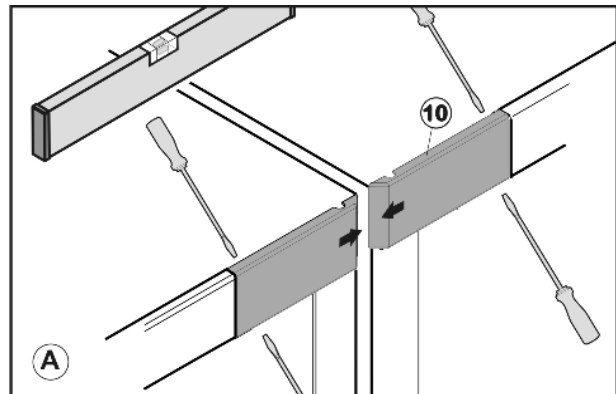

Fig. 59
- Loosen covers Fig. 59 (10) using a screwdriver and pull inwards to remove.